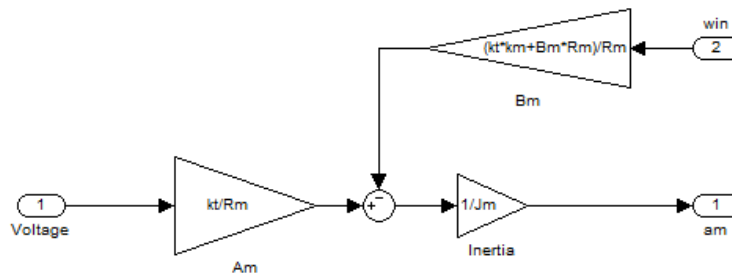

Figure 2.20: Modified motor model subsystem
Now that the motor model has been added into the train model, a number of modifications need to be made to the motor model to connect it to the train shown in Figure 2.20. These changes are outlined below:
2. Next add an input into the subsystem that accepts the angular velocity feedback, since the angular velocity feedback is dependent on the overall system position. Your motor model subsystem should now resemble Figure 2.20.